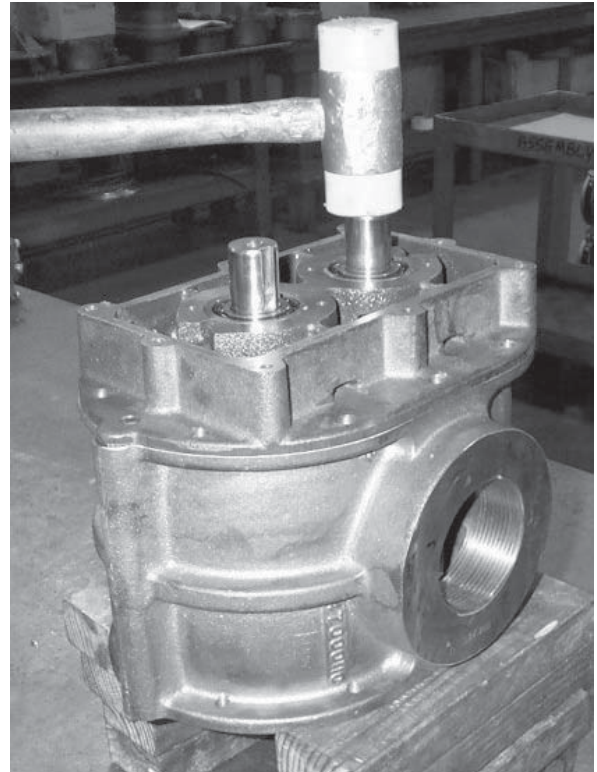

Figure 8-8 – Driving Rotors Out Using Soft Mallet
14. Press the rotors out of the free (non-drive) end plate in press if available. If press is not available, support the end plate and rotors in the housing. Block up the housing and use a soft mallet to drive the rotors out (see **Figure 8-8**). A jaw-type puller can also be used.